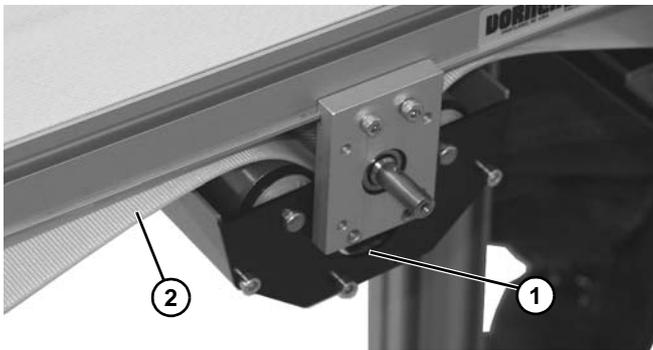

Figure 73
- Lower and remove mid drive module (**Figure 73, item 1**) from belt (**Figure 73, item 2**).